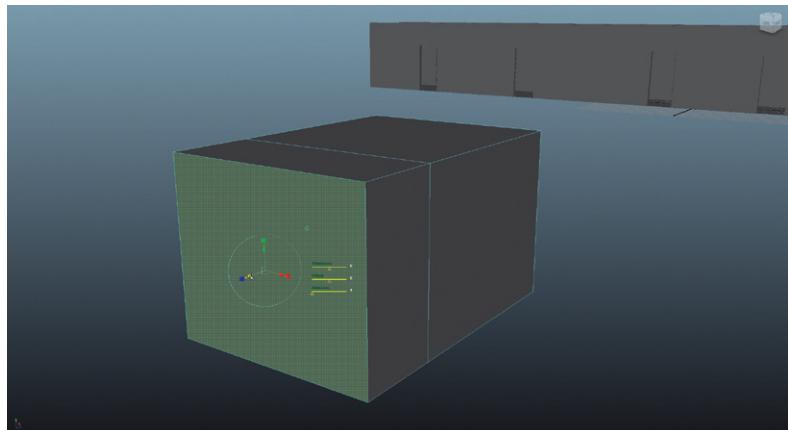

FIG. 3.20 Extruding out a face. Notice that there are now new faces around the edges of the extruded face that tie it back to the base shape.
Step 34: Pull the new face out. With the new manipulator handles, grab the Move Z handle (the blue cone), and pull the face out to approximate Fig. 3.20.